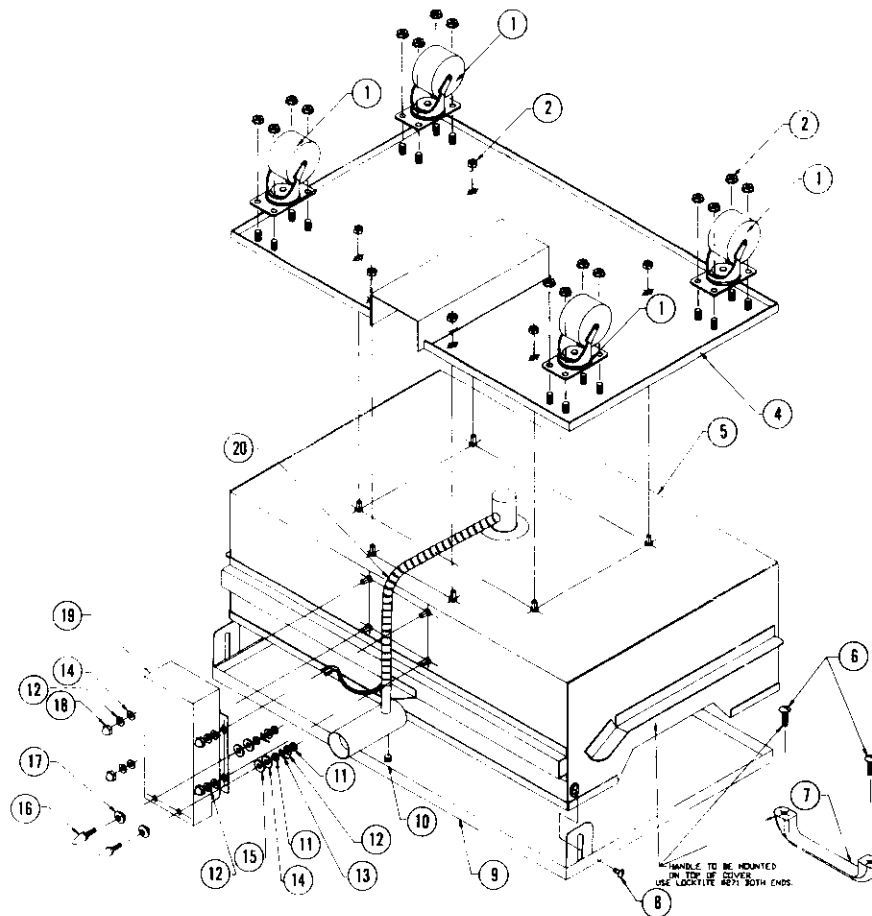

Figure 15-D
16. PARTS LIST (CONT'D)-FOOTPRINT II (Refer to Figure 15-D)